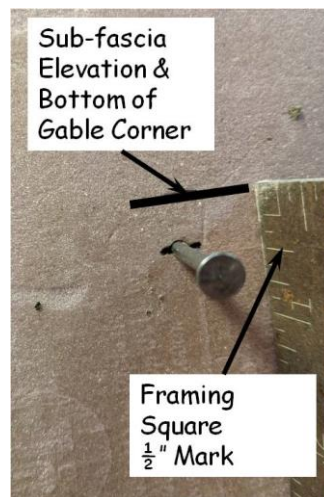

Figure 11-1. Siding Layout.
2. At each corner on the eave sides of the house, use a framing square to **transfer the elevation of the** bottom of the sub-fascia to the wall **as shown in Figure 11-1**. With the blade (long leg) firmly against the wall, slide the square up until the tongue (short leg) contacts the bottom of the sub-fascia, and make a mark on the wall at the top of the square (this will be the **sub-fascia elevation and bottom of the gable corner blocking**) and $\frac{1}{2}$ " below the top of the square (this will be the **top of the siding corner, or bottom of the soffit**). Drive an 8d nail into the corner stud at the vertical center of the $\frac{1}{2}$ " mark.